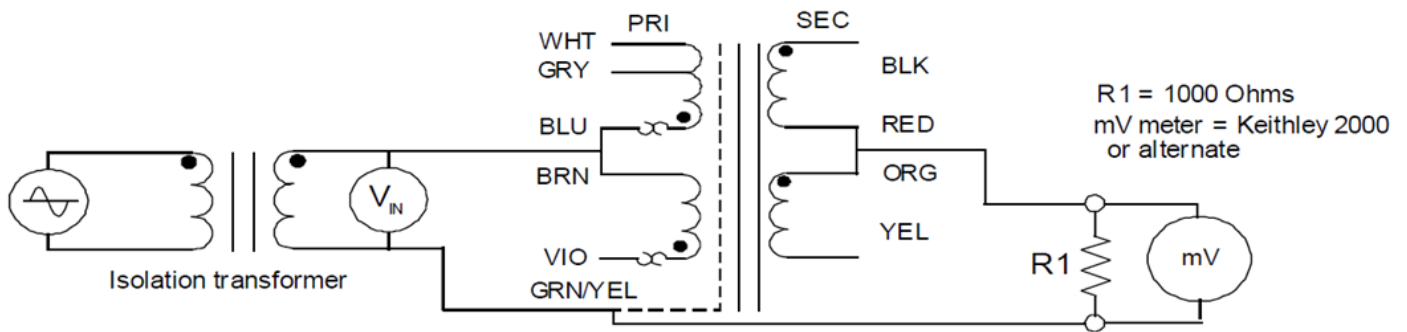
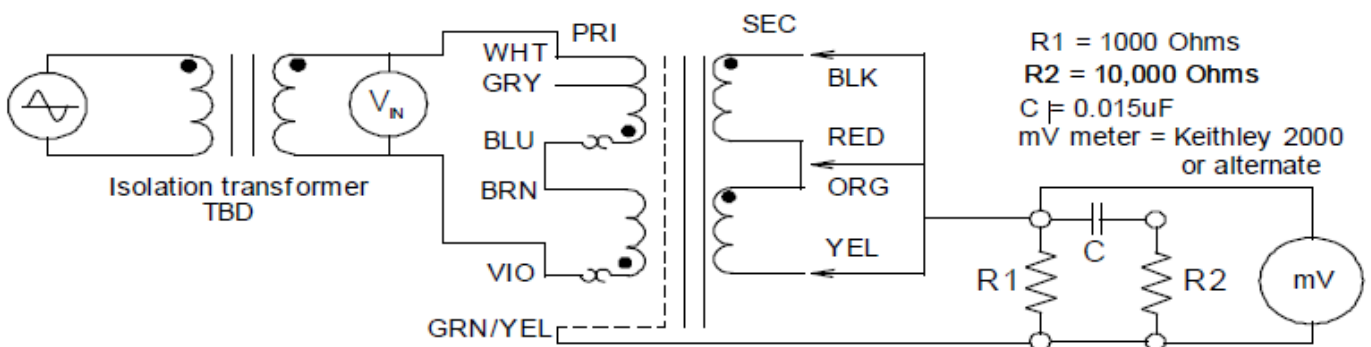

Figure 1
Figure 2
8. Earth Leakage:  $\leq 10\mu A$  (See Fig. 1), Patient Leakage:  $\leq 100\mu A$  (see Fig. 2)